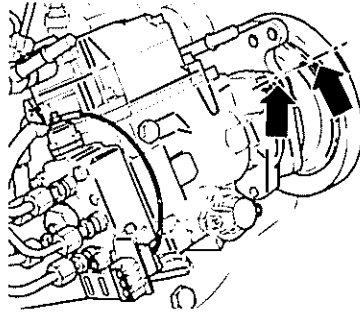

Fig 23 Injection pump - alignment markings
- 100 Markings on the injection pump and drive pulley must be aligned (see Fig 23).